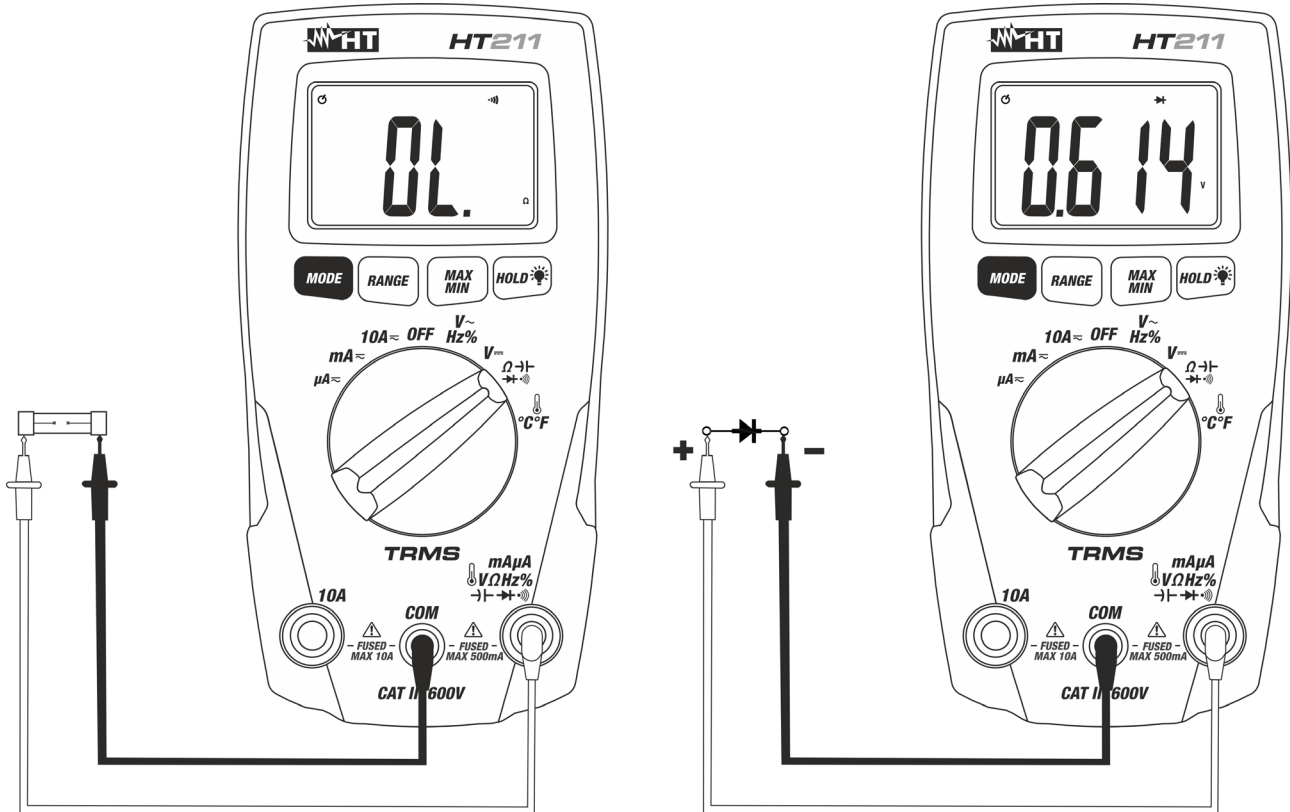

Fig. 6: Using the instrument for Diode test and Continuity test
4. Connect the test leads to the diode under test observing the proper polarities (see Fig. 6 – right part). The threshold voltage value under this situation is displayed
7. Press the **MODE** key until the symbol " \rightarrow " is shown at display to meaning the continuity test and connect the meter as resistance measurement (Fig. 6 – left part). Buzzer emits sound if the measured resistance value is $<50\Omega$